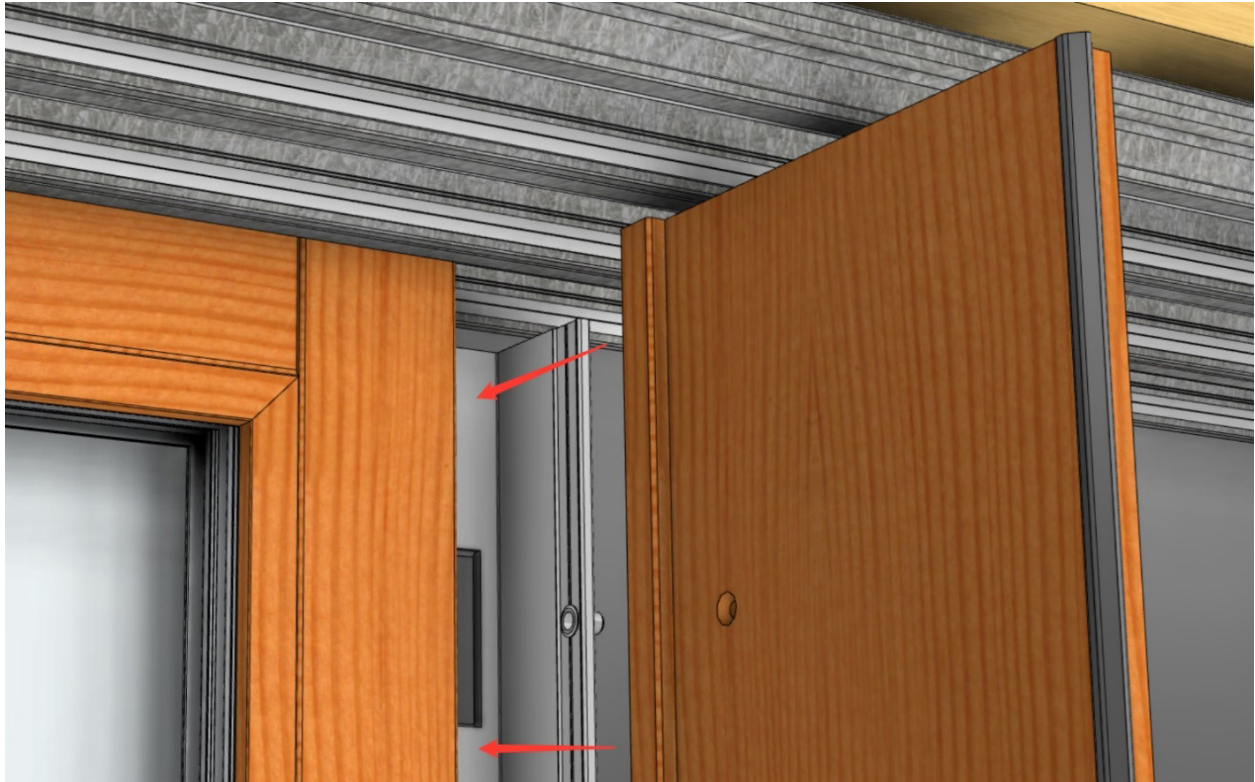

Fig PKT 15
- Slide the panel between the pocketing stile and the interlock (Fig. PKT 15).